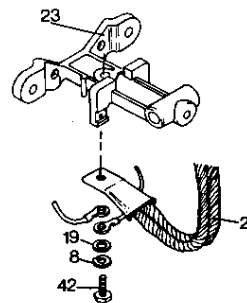

Figure 5
5. Slide out the contact arm pin (24) after removing the hex head nut, lockwasher, and set screw (26).
6. Remove the contact arm assembly (22).
7. Remove the magnet frame (38) from the contactor by removing hex head nuts (43) and lockwashers (8).
8. Remove the silicon bronze hex head cap screw (11) on the front of the magnet core and remove the lockwasher (13), core cap spacer (34), core cap (35) and coil (36).
9. Install the new coil using the core cap, core cap spacer and lockwasher and tighten the silicon bronze hex head screw. Note that the steel core cap, which is thicker than the non-magnetic phospher bronze spacer, must be installed against the coil. (See Exploded View). Check that the spring washer (37) is so positioned that the outside edge is against the coil (36) and not against the magnet frame.
14. Replace the auxiliary arm spring retainer and spring using lockwashers and hex head screws. Check that the auxiliary arm spring is properly seated between the auxiliary arm spring retainer and the auxiliary arm (Fig. 5).
1. With all power removed, disconnect the arc chute wires by removing the hex head cap screw (42), washer (19), lockwasher (8), arc chute wires and shunt (21).
3. Remove the arc chute by removing hex head nut (12), lockwasher (8), hex head cap screw (40) and the arc chute.
6. Reconnect arc chute wires and shunt (Fig. 5) using the washer, lockwasher and hex head cap screw.
1. With all power removed, disconnect the bottom end of the shunt (21) by removing hex head cap screw, lockwasher, washer, arc chute wires and the shunt.
2. Disconnect the top end of the shunt (21) by removing hex head nut, lockwasher, washer and the shunt.
3. Check that auxiliary arm pin (27) is centered and set screw (18) is tight.
5. Connect the bottom end of the shunt by replacing the shunt, arc chute wires, washer, lockwasher and hex head cap screw (Fig. 5).